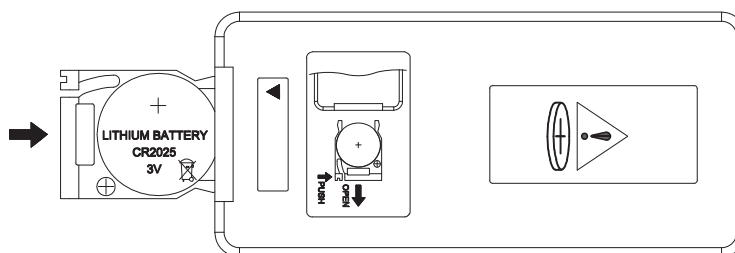

Figure3
3. Insert the battery with the button side into the battery bracket, making sure the battery is firmly seated. (figure 3)